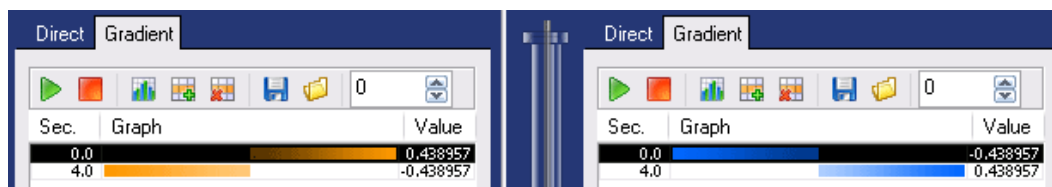

Figure 75 – Gradient Lists for Continuous Flow
- Now repeat this entry for the second dosing unit. Make sure you now swap over the values for minimum and maximum flow, i.e. use the positive value for the minimum flow and the negative value for the maximum flow. This causes the second dosing unit to operate in exactly the inverse fashion to the first dosing unit. Both flow profiles of both dosing units should look similar to the lists in Figure 75: